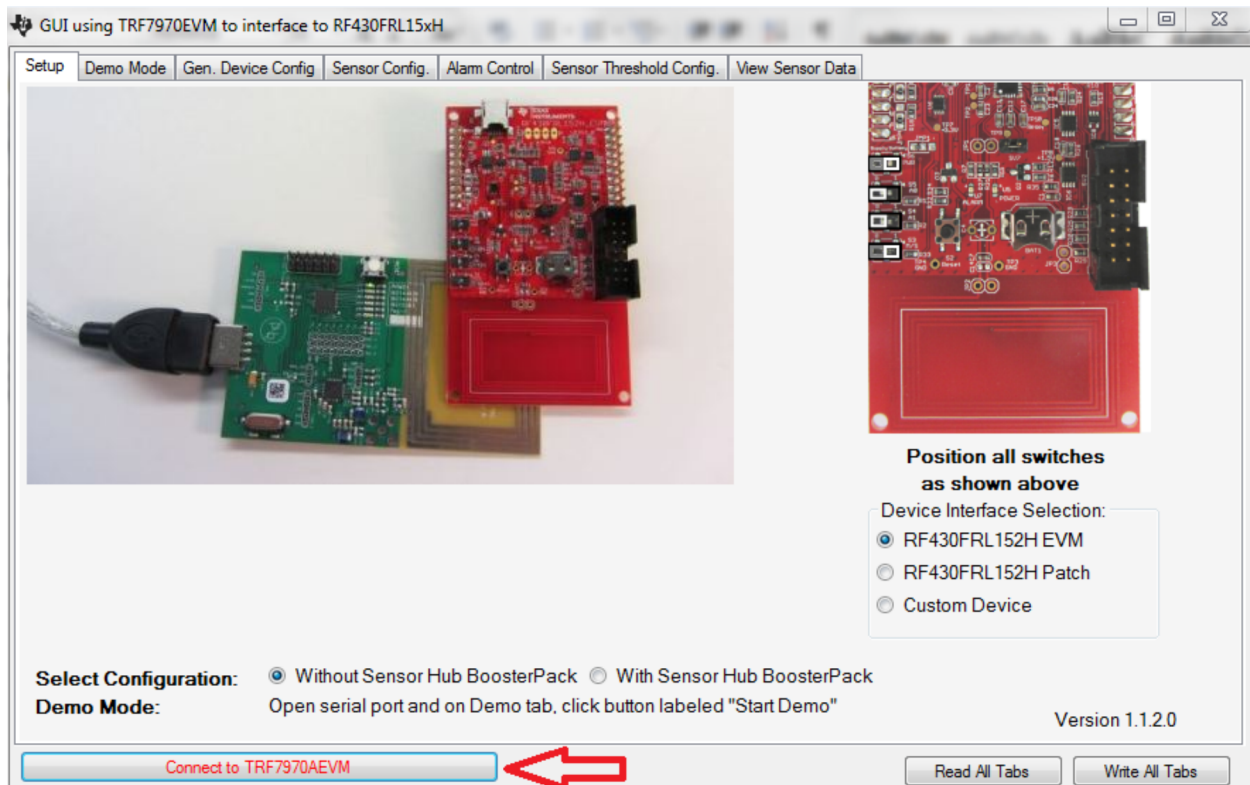

Figure 3. Connect to TRF7970AEVM
2. Plug in the TRF7970AEVM, open the RF430FRL152H GUI, and click “Connect to TRF7970AEVM” (as shown in Figure 3).